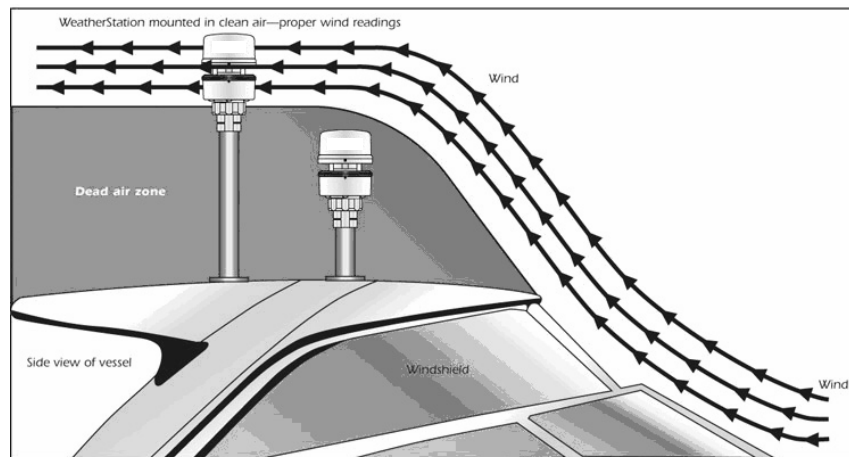

Figure 13. Boat/vehicle mounting location (boat shown)
*Move the WeatherStation Instrument farther back and higher (Figure 13).*